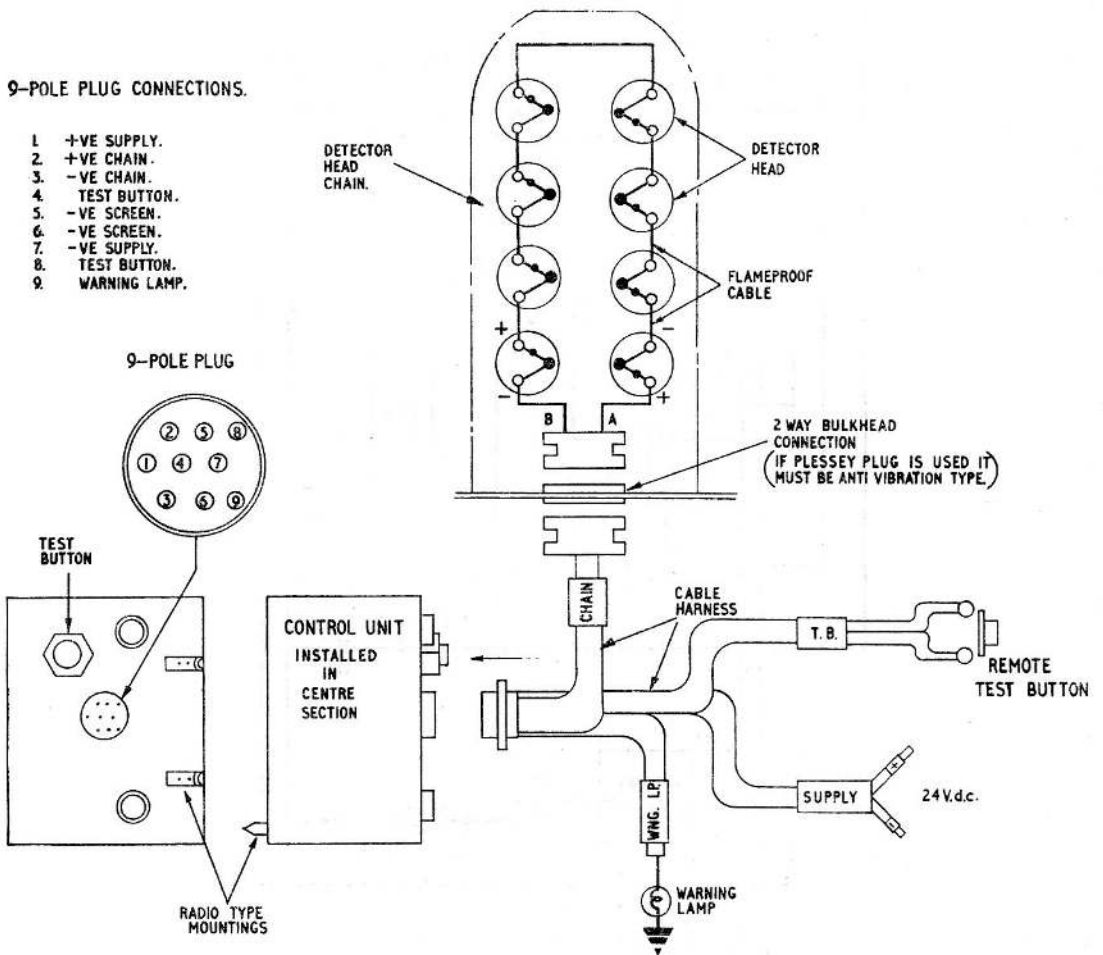

Fig. 3. Typical installation in a single zone fire warning system
4. The installation of the control unit is illustrated in fig. 3 which shows a typical installation of a unit in a single zone fire warning system. Further information is contained in A.P.4343, Vol. 1, Sect. 22.